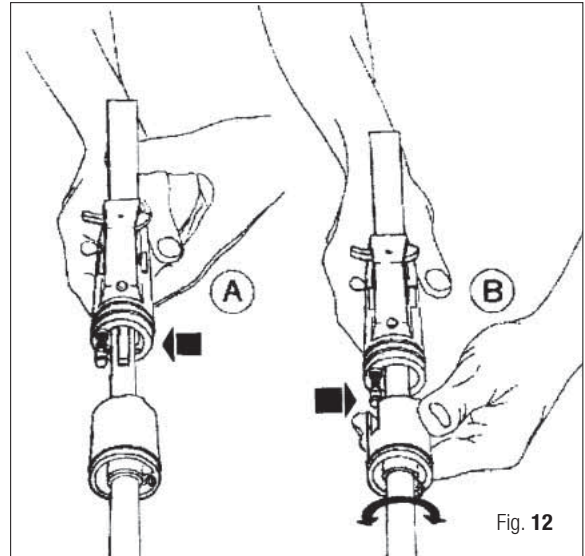
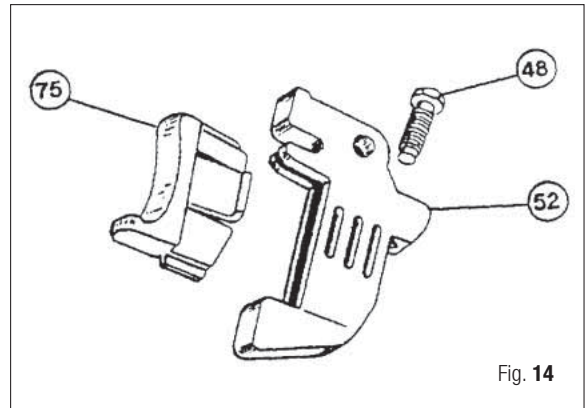

Fig. 12
Fig. 14
7. Position the one-way housing (69) over the one-way seat (68) and press into place (Fig. 12).
8. Place O-ring (20) into the groove of the power regulating block (70) (Fig. 12).
NOTE POSITION THE HANDLE (41) WITH THE TRIGGER SEAT ABOVE THE CATCH HOOK (50) (FIG. 12-A). ALIGN THE POWER ADJUSTMENT ROD WITH THE CORRESPONDING HOLE IN THE POWER REGULATING BLOCK. IF NECESSARY, ROTATE THE POWER REGULATING BLOCK, MAKING SURE THE ONE-WAY HOUSING REMAINS IN THE SNAP RING SEAT (FIG. 14-B). PUSH THE HANDLE AGAINST THE POWER REGULATING BLOCK AND MAKE SURE THAT THE POWER REGULATING BLOCK TABS ARE POSITIONED IN THEIR SEATS IN THE HANDLE.
29. On guns prior to serial number 92289000, place the o-ring (46) into the handle insuring that it is positioned in its seat then install the snap fork (74). Be sure that the snap fork locks into place.
30. Insert the rounded end of the connecting plunger (45) into the bushing (47) or snap fork (74) using special tool A-13 (Ø 3mm) or needle nose pliers.
32. Install trigger adjustment screw (48) and trigger insert (75) into trigger body (52) (Fig. 14). With a 6 mm wrench, tighten trigger adjustment screw (48) into trigger body (52), until the 6 mm. hex protrudes approximately 4 mm.
33. Align the hole in the trigger with the holes in the handle (41) and install trigger pin (53).
37. Open the jaws and remove barrel (26).
38. With a rotating motion, install tank (25) using jaws (A-3) if necessary.
39. Fill the barrel (26) with oil, according to the quantities shown in the table below.